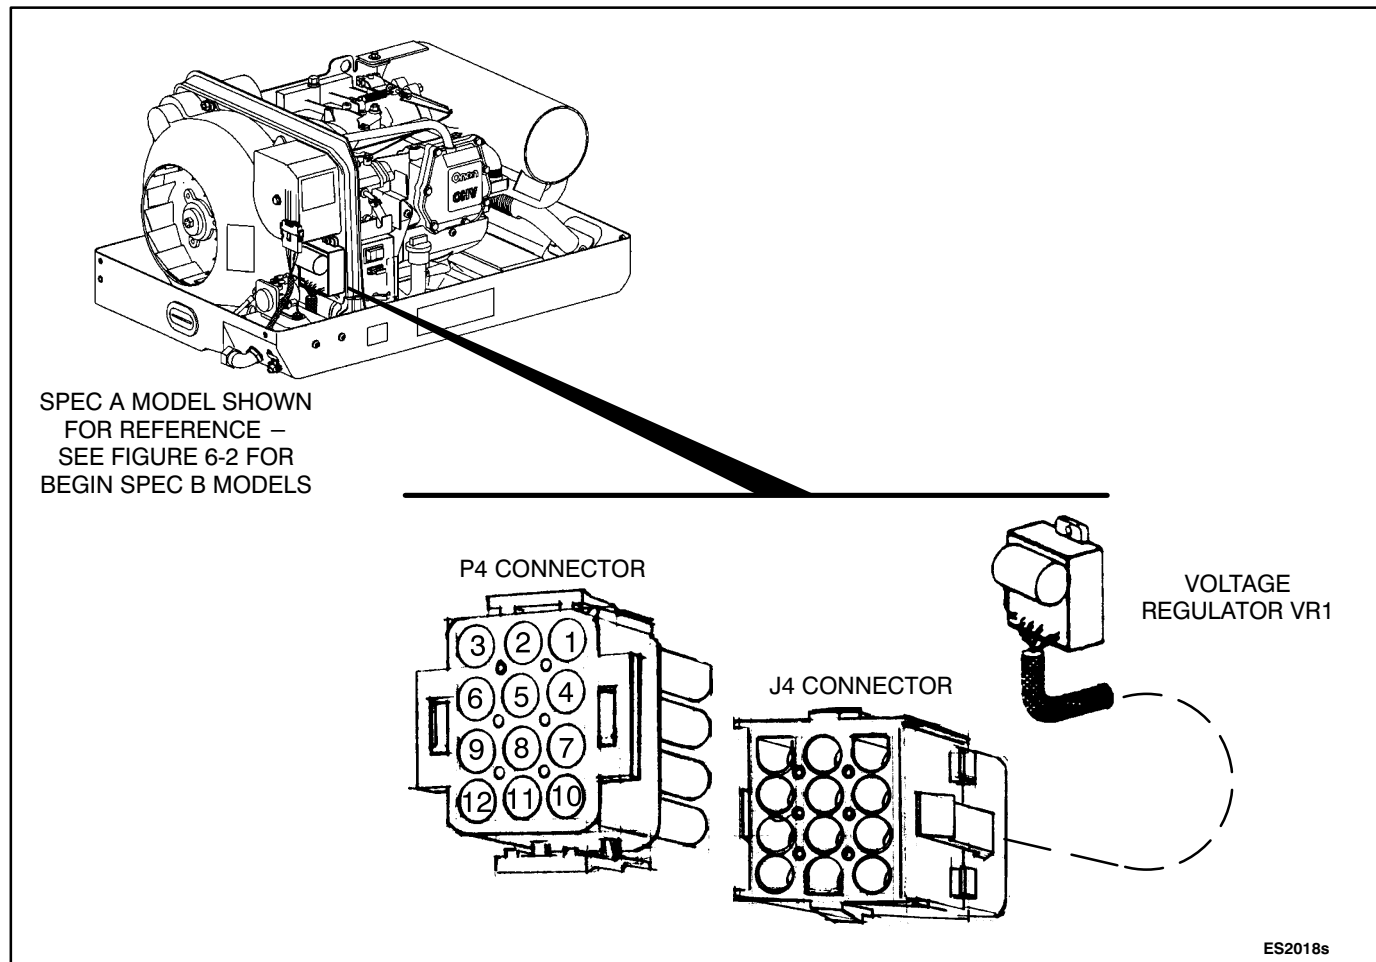

FIGURE 9-6. VOLTAGE REGULATOR CONNECTOR PLUG (P1)
The voltage regulator plug J4 remains connected to wire harness plug P4 for Test A and B. The voltmeter leads should be secured so that they are not being held during testing. (Use long pointed test leads or paper clips connected with alligator clips to the test leads.) Refer to Figure 9-6.
1. Disengage the J4 wiring connector and remove the voltage regulator (Figure 9-6 on Page 9-8).